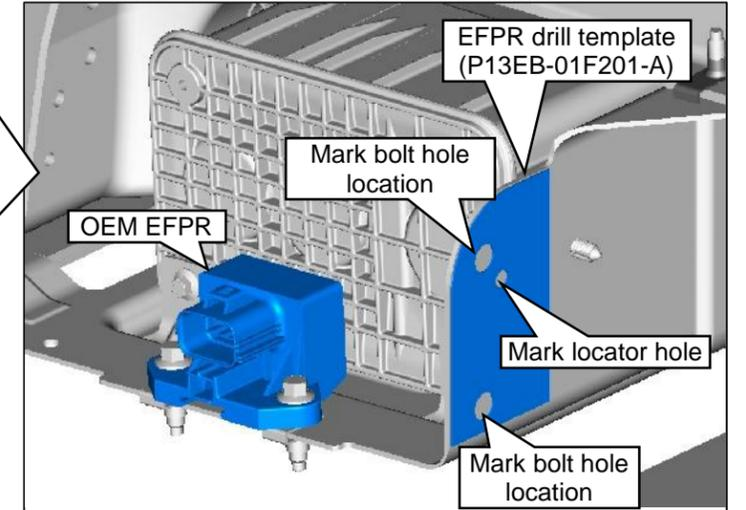

Figure 17.2 — OEM Aft-axle Tank Version
8. Position the EFPR drilling template to the outside of the vapor canister bracket as shown. Mark the two bolt hole locations, as well as the EFPR bracket locator hole and remove the template. **Figure 17.2.**